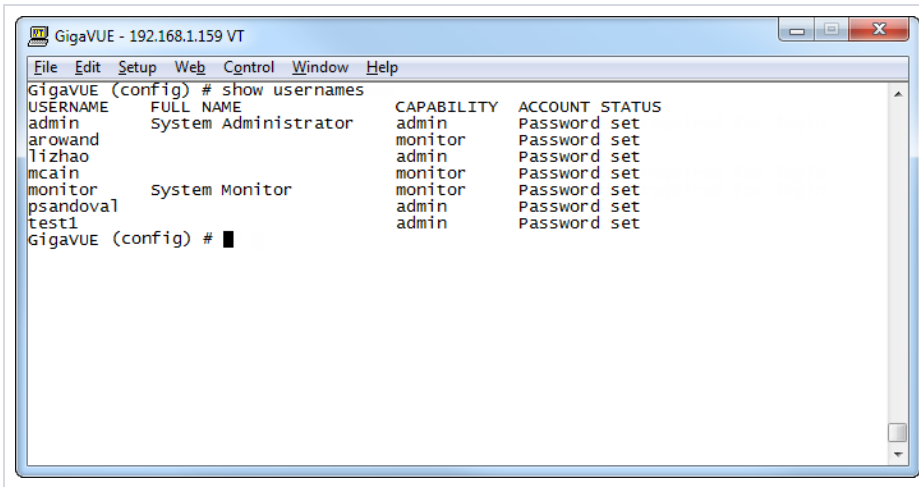

Figure 12: Reviewing the User List
2. Once you have configured these basic user accounts, use the **show usernames** command to review your settings. Figure 12: Reviewing the User List shows some sample **show usernames** output after several users have been added.